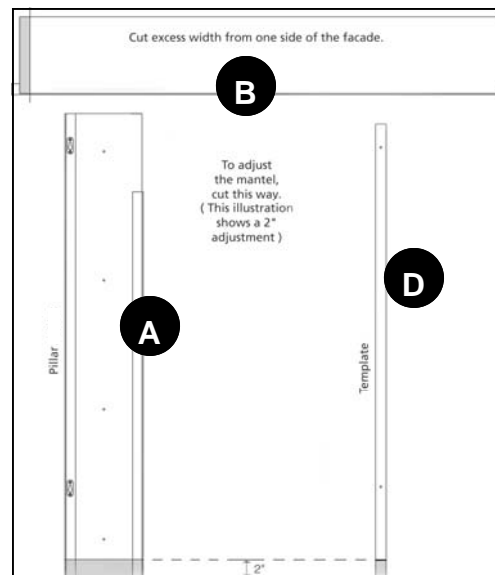

Fig. 2
Cut excess height at bottom part of pillars (A) and template (D). (Fig.2)
Cut excess width from one side of the facade (B). (Fig.2)